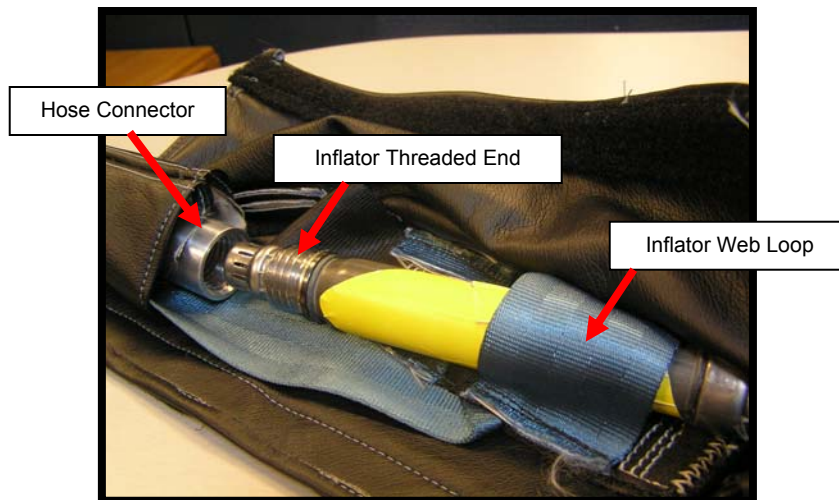

Figure 6 – Hose Connectors of Inflator Assembly
- e. Disconnect the gas hose from the **Inflator** (Figure 6). The gas hose barb is Loctite coated which makes it a very secure fit. Use a second back-off wrench for loosening. DO NOT damage end of gas hose if using any type of locking pliers.
- a. Access Velcro opening to **Inflator Cover** of the **SAA** (1A, 1B). Insert **Inflator** (30) into Inflator Web Loop with the Squib Connector end toward inertia reel assembly (Figure 6).